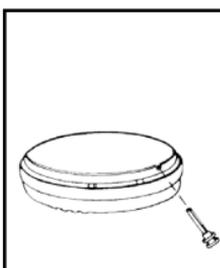

FIGURE 9
7. USING TAMPER RESIST LOCKING PIN (all models except i9040EU): To make your smoke alarm tamper resistant, a locking pin has been provided in the bag with the screws and anchors. Using this pin will help deter children and others from removing the alarm from the mounting plate. To use the pin, insert it into the hole in the side of the alarm after the alarm has been installed on the mounting plate (see figure 9).